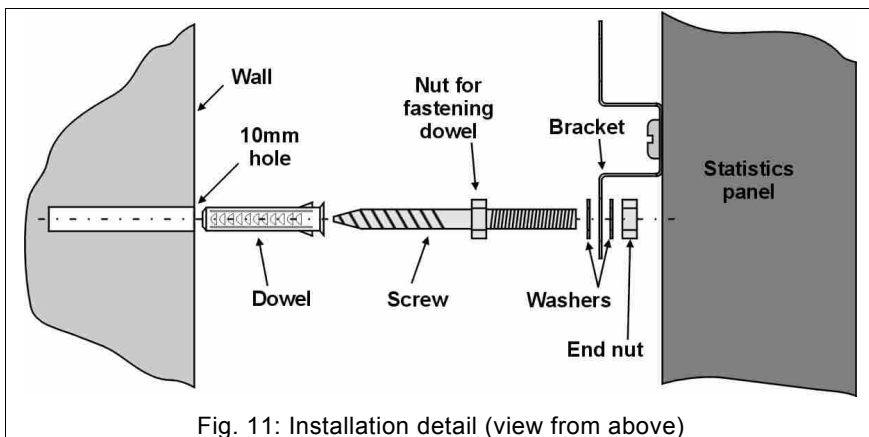

Fig. 11: Installation detail (view from above)
2. Insert a dowel in each of the holes and then insert the screws by working the nut with a 13 mm wrench (Fig. 11); insert the washers.